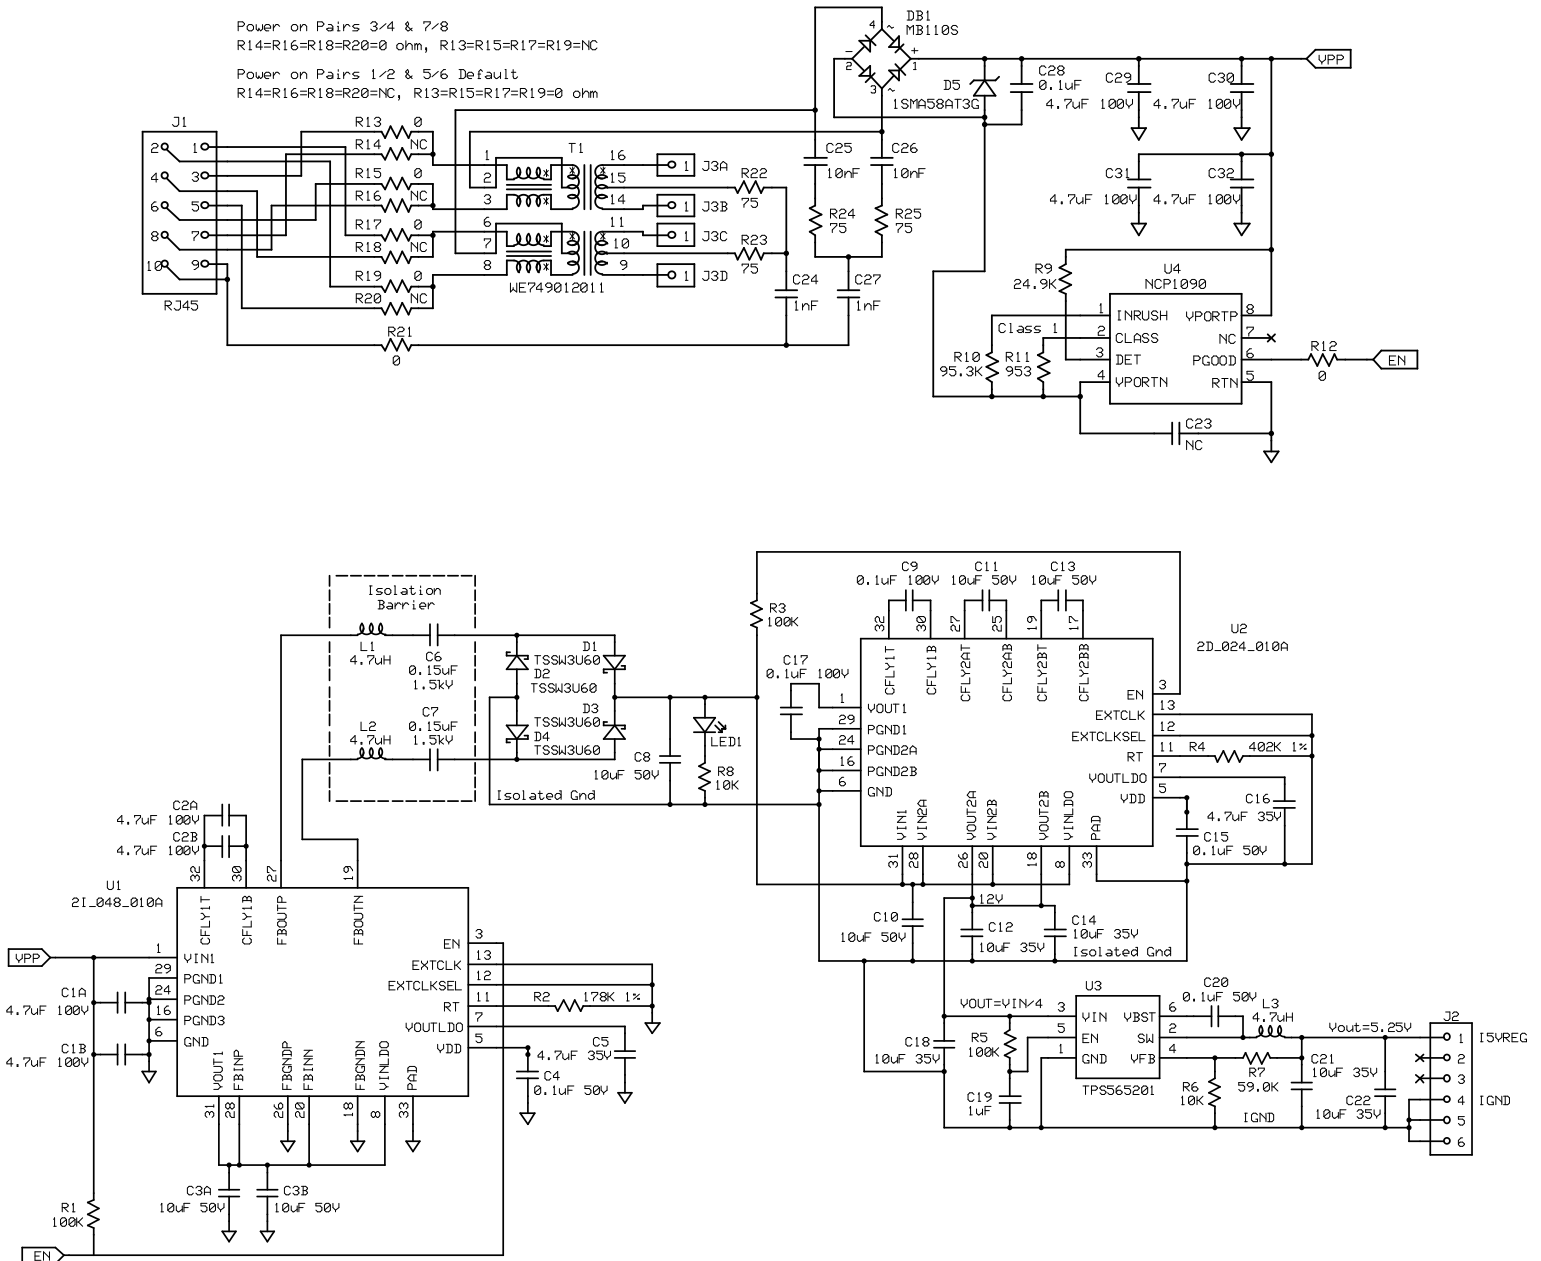
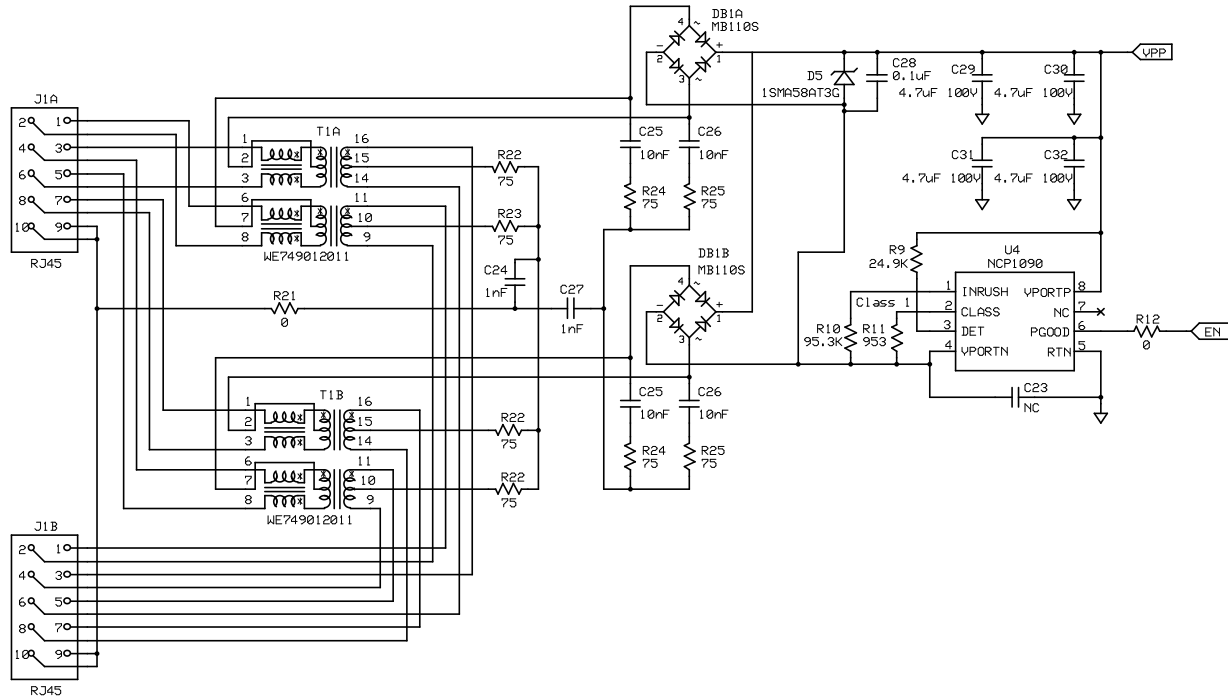

Figure 19: MxC 274 PoE Level 1 to USB-A +5Vreg Output TL EVB Schematic
Figure 20: MxC 274 PoE Universal Pass-Through Schematic
- 1) Confirm which wire pairs power is delivered on. Board defaults to TP1/2 and TP5/6. Refer to Figure 19 for reconfiguring R13-R20 for alternate wire pair. Figure 20 provides a universal pass-through configuration.
The RJ-45 connection in Figure 19 assumes a known configuration for the assigned power wire pairs. Resistors R13-R20 must be properly configured for the appropriate power wire pairs. Also, test points are provided onboard for connection to the data signals. The following figure shows a universal power and data pass-through configuration